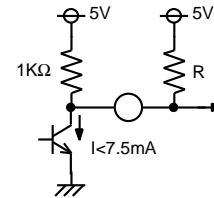

Fig.4
4. The terminal of H, V output pin are shown as Fig.4. It is possible to reduce rise time by insert the resistor between Vcc line and H, V output Pin, but set the value of resistor in order that the current is under 7.5 mA. Setting the value of R is more than 2kΩ as shown in Fig.4 .